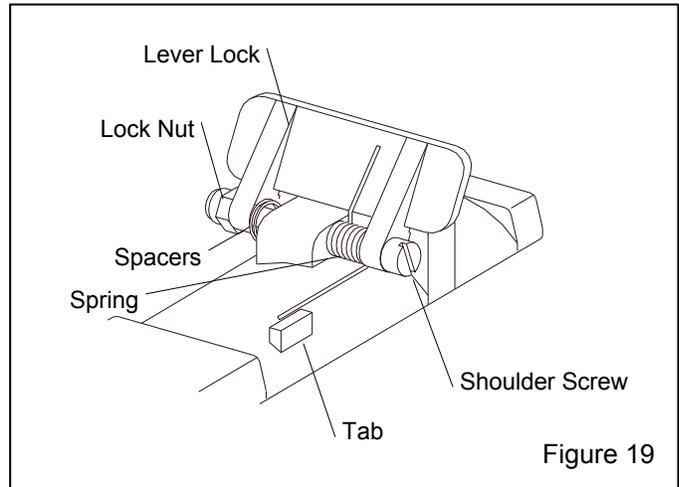

Figure 19
6.8.2 Lever lock replacement, Figure 19
6.8.2.1 Remove the lock nut from the shoulder screw. Before removing the screw, note the positions of the spacers and spring, as shown in Figure 19. The bent end of the spring is toward the inside, forcing the lever lock up. The straight end is toward the outside, facing down and against the tab.